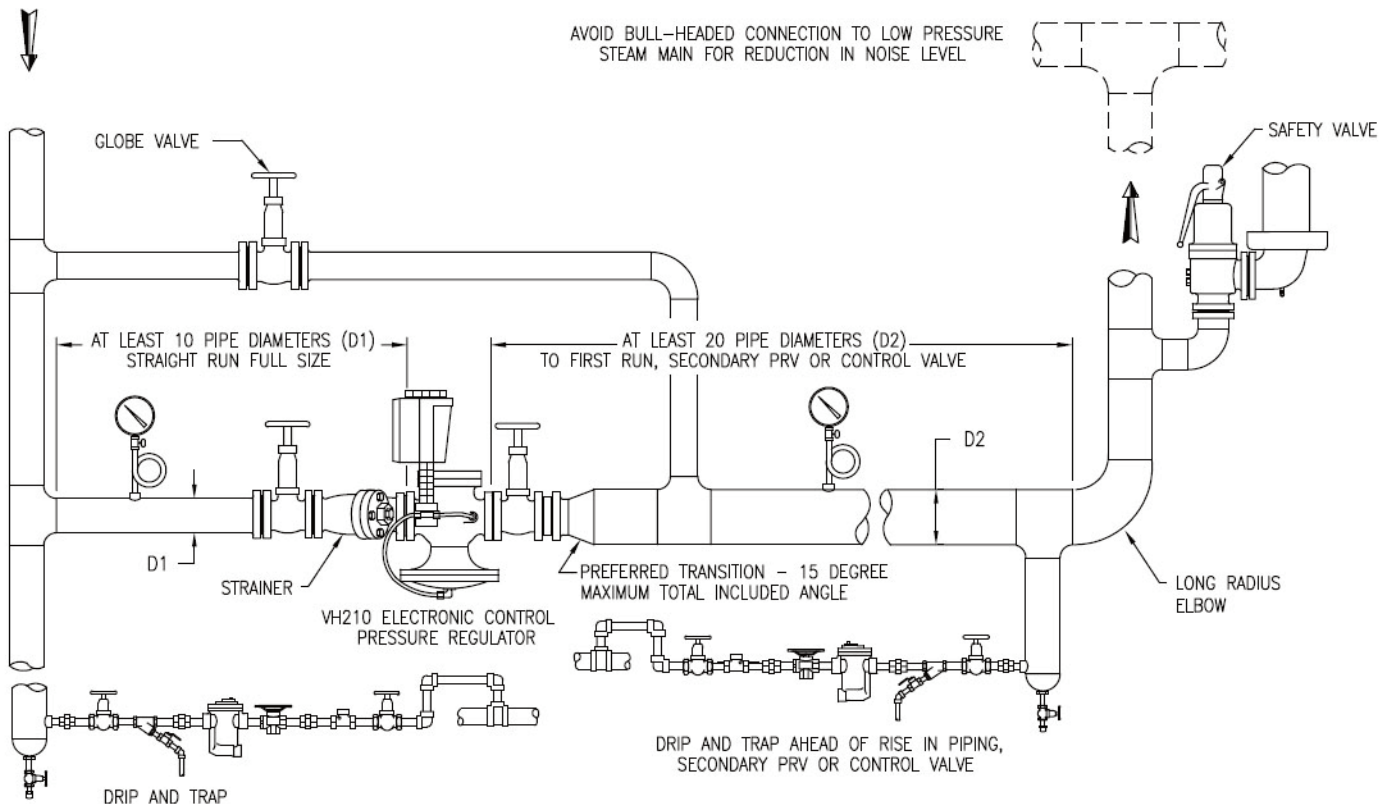

Figure 3 - Recommended Installation of EVH210 Regulator with Strainer
1. Locate the valve in a straight run of horizontal pipe. See Figure 3.
4. Avoid damaging effects of scale and dirt in pipelines by using a strainer as shown in Figure 3.